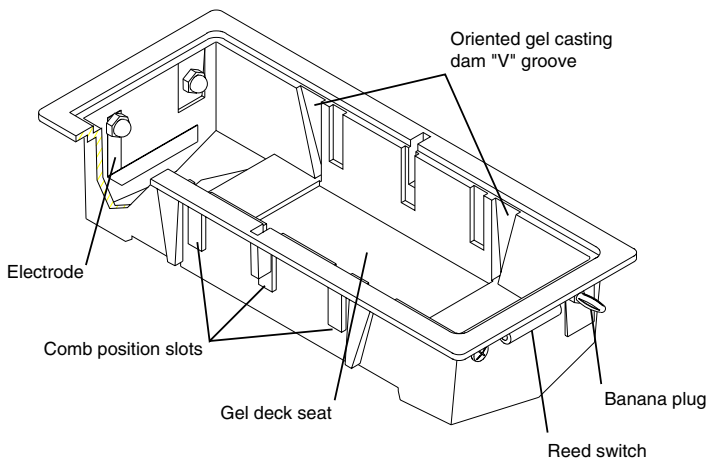

Figure 3. Buffer Tray.
- **Buffer Tray** (figure 3). The clear polycarbonate plastic buffer tray is designed to be used in the tray support stand and **not** as a stand-alone electrophoresis apparatus. Because the buffer tray is removable, the electrophoresis buffer is easily discarded. The buffer tray provides three slots to position the combs and two “V” grooves for the gel casting dams. Electrical contact is disabled when the buffer tray is free from the tray support stand due to the presence of reed switches on the outside ends of the tray.